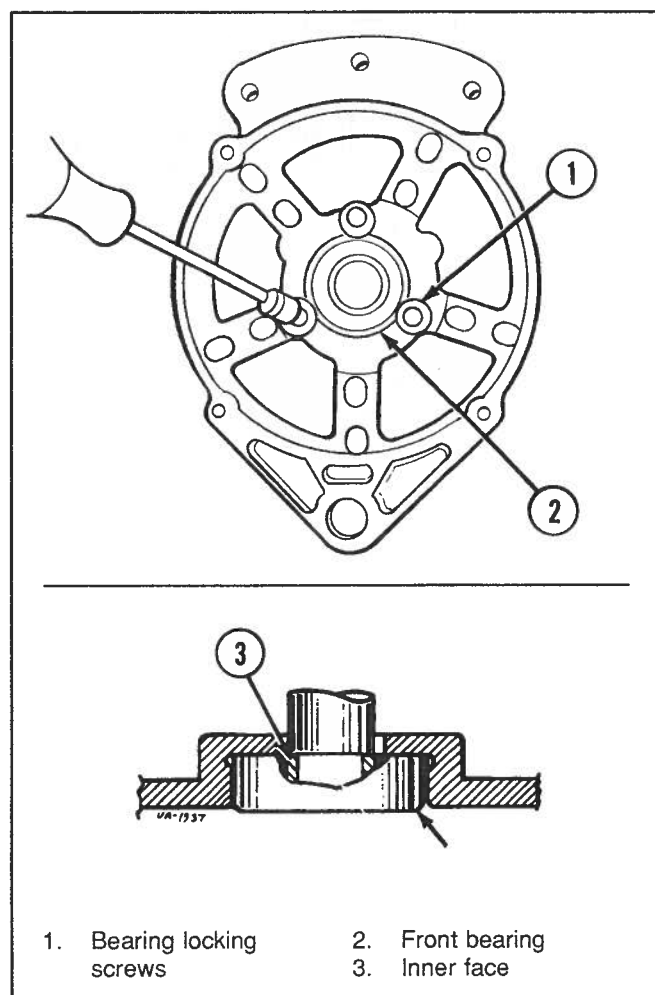

Figure 6-74. Removing Front Bearing From Housing
8. After removing the three bearing locking screws (1), carefully press the front bearing (2) from the housing. Press against the inner face (3) of the bearing as shown (Figure 6-74).